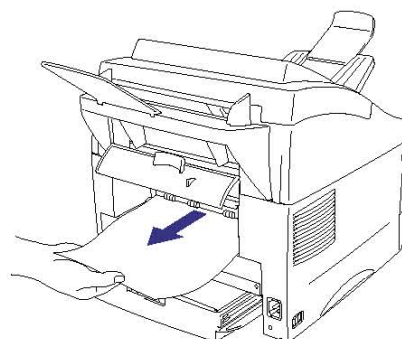

Fig. 7-3
- (6) Open the rear cover and pull the jammed paper out of the fixing unit. If you have to pull the paper towards the back of the printer, the fuser may get dirty with toner powder and may result in toner scatter on the next printed page or pages. Print a few copies of the test page until the toner scatter on the printed pages stops. (Fig. 7-3)